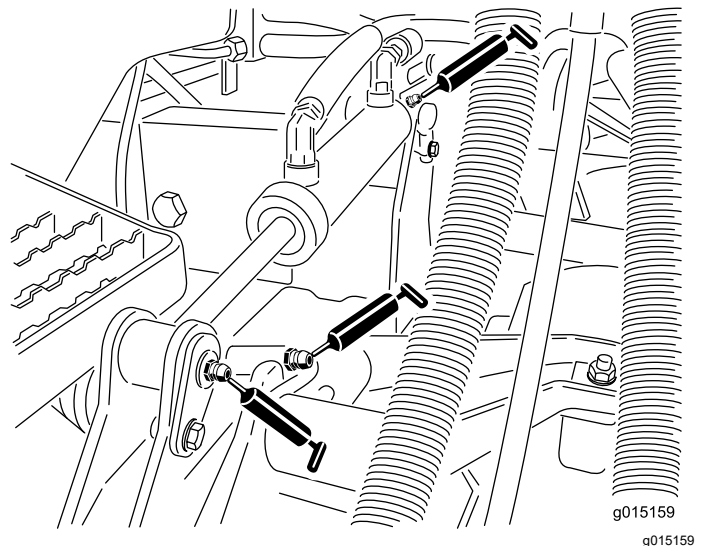

Figure 84
- Lift arm bushings (1 per cutting unit) (Figure 84)
- Lift cylinder bushings (2 per cutting unit) (Figure 84)